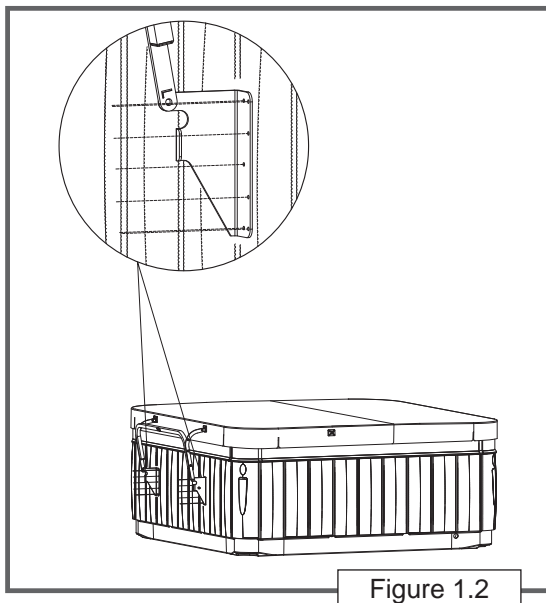

Figure 1.2
- The Warning Label must be facing the front of the spa (front to back) or the right side if folding to the left of the spa (side to side) (Figure 1.2) or to the left side if folding the cover to the right.
- Align the back or side of the cover (opposite side of Warning Label) with the back or side of the spa skirt (Figure 1.2).
- IMPORTANT:** Carefully examine cover to be sure it is still aligned evenly with the outside edges of the spa bartop (Figure 1.2).
Using the Mounting Bracket (bottom part of the Pivot Assembly) as a template, predrill  $7/64$ " holes into spa (Figure 1.2) with 1" max. depth. There are (7) holes per Mounting Bracket.